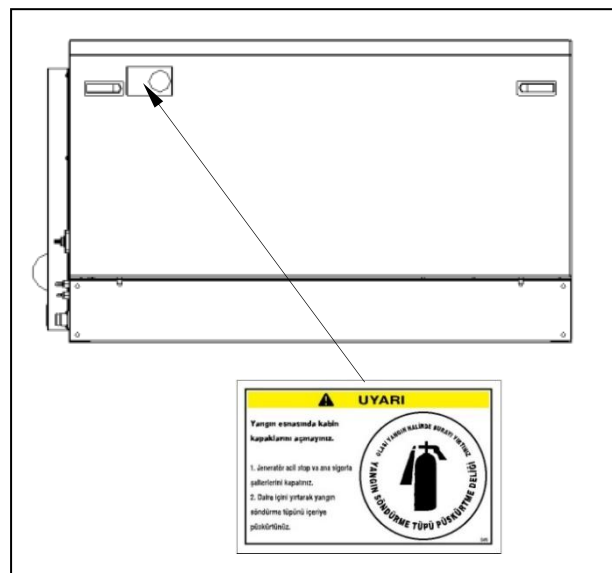

FIGURE 6. FIRE EXTINGUISHING INLET
- Stop operating of the generator if it is possible. If possible, cover all spaces that can take air inside that around voice isolation cabin. Certainly turn off all other running engines and devices, too. Put in all of nozzle of fire extinguisher to label on placed generator and interfere the fire by spraying all of fire extinguisher. Use the fire extinguisher by passing from marked point on fire extinguishing warning label that placed generator sets with cabin when it is necessary. (Figure 6)